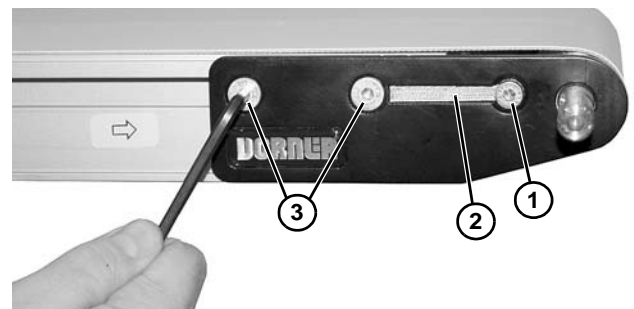

Figure 81
2. On one side of the conveyor, remove screw (**Figure 81, item 1**) and remove dust cover (**Figure 81, item 2**), if installed.
3. Remove two fastening screws (**Figure 81, item 3**).